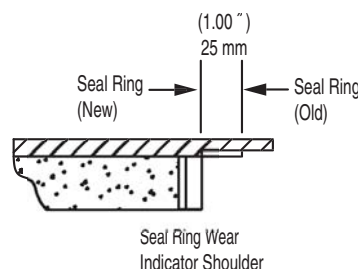

Figure 1
Check the rotary joint regularly to determine seal ring wear. As shown in Figure 1, the shoulder on the nipple will move outward as seal ring wear takes place. Should the seal ring (6) wear away completely, the metal nipple (4) can contact the joint body (1) and the wear plate (16), eventually wearing through it. This will result in a significant leak and create a hazardous condition. Metal to metal contact of these parts may require replacement of the entire joint instead of just the seal rings.
Determine the location of a shoulder that is machined into the shaft of the rotary joint nipple (see Figure 1).